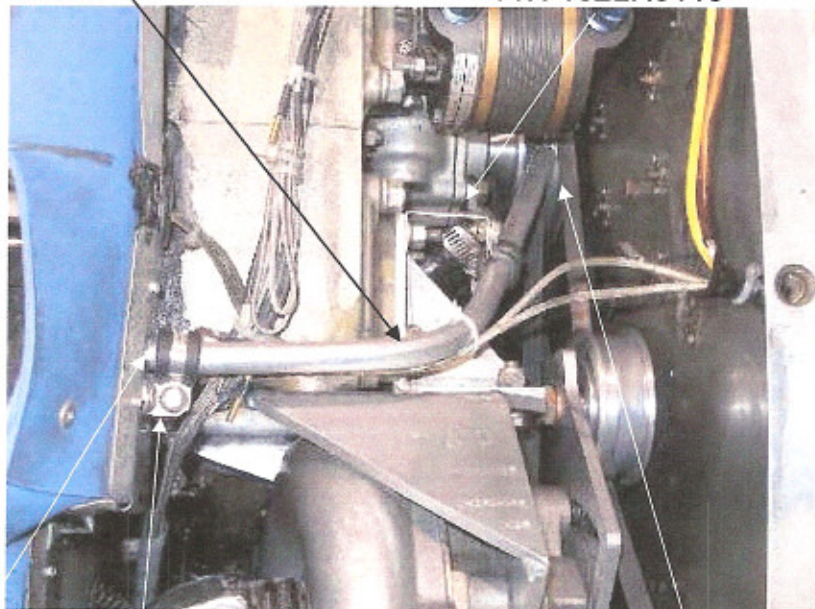

Figure 2
2. Bend a 13.0 inch length of 0.5 inch 3003-0, or 6061 aluminum tube, to approximately a 67 degree angle so it will make a smooth bend from the hole drilled in step 1 to a point 1.0 to 2.0 inches from the supercharger and alternator belts where they meet the drive pulley. Bend the tube to curve it at a point 5.0 inches aft of the engine baffle. (Figure 2)
3. Insert the tube in the baffle with approximately 1/16 inch protruding forward of the baffle. Seal around the tubing using RTV. Secure the tube to the baffle using an AN743-12 bracket and MS 21919-DG8 clamp and an AN3 bolt and AN363 nut (Figure 2).